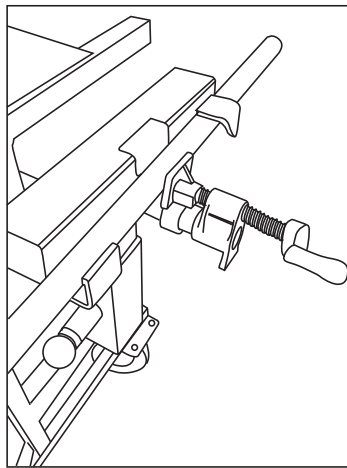

Fig 1
1. To utilize the speed vise (9) assembly for cutting $\frac{1}{2}$ " or 1" EMT conduit. At a 45-degree angle place conduit into conduit holder. Set conduit so that it is parallel with the ground and in the correct position to make desired cut. Tighten the speed vise (9) by cranking the handle until tight. Conduit is now ready to be safely cut (Fig. 1).